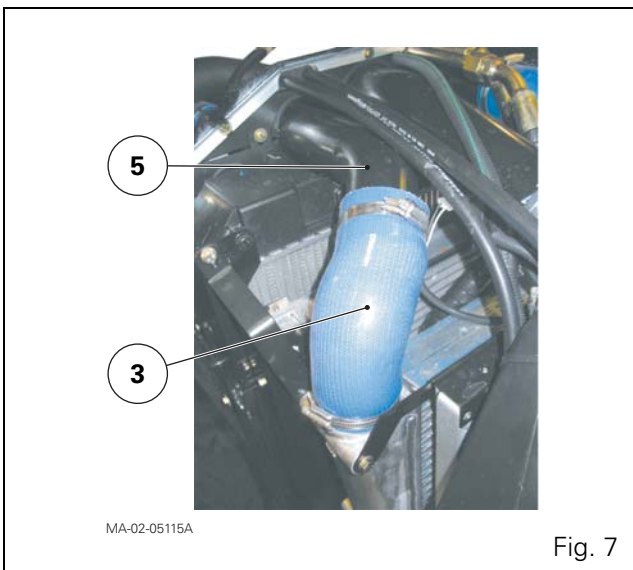

Fig. 7
- the sleeve (3) and the rigid air sleeve (5) of the air cooler inlet (Fig. 7);